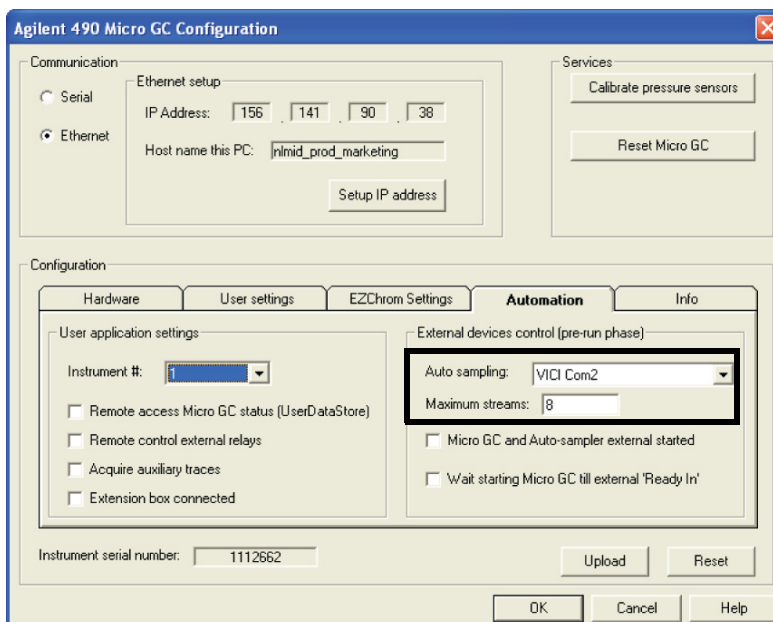

Figure 7 Selecting **VICI Com2** in the **Autosampling** field
- 1 Set the **Auto sampling** value to **VICI Com2** (Figure 7).